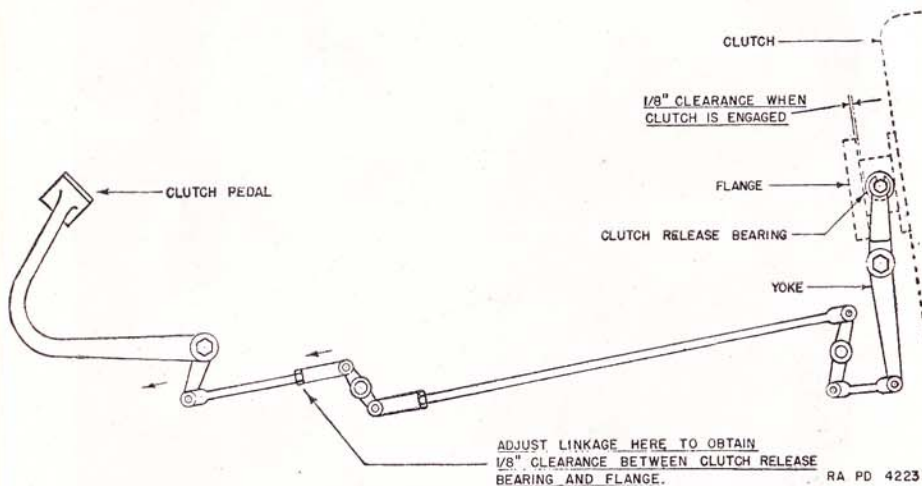

FIGURE 40.—Adjustment of clutch.
*b.* Correct adjustment of the clutch pedal is made by lengthening the adjusting link (fig. 40) so that  $\frac{1}{8}$ -inch clearance exists between the clutch release bearing and flange when the clutch is engaged.
**75. Clutch release.**—*a.* The clutch is provided with a release device which holds the clutch in the “out” position (disengaged). The foot pedal and levers shown in figure 40 are part of the release mechanism. Release bearings should always be inspected when the engine is removed.